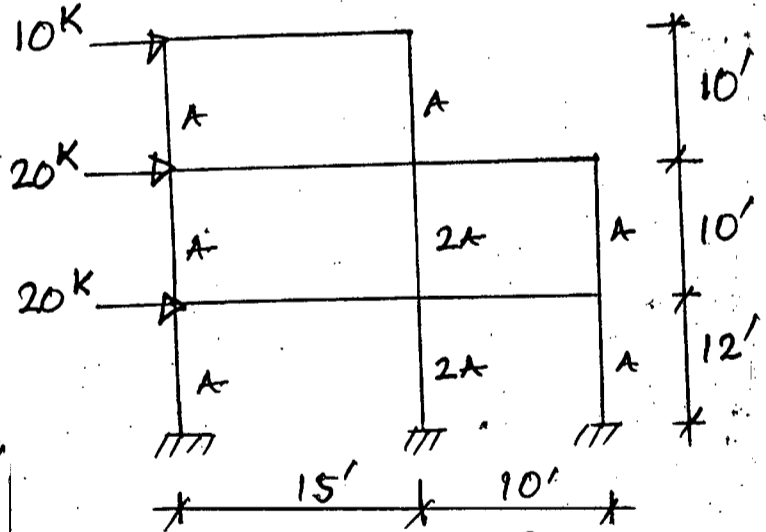

Figure 13
11. (a) Using Cantilever method, draw the bending moment diagrams of the beams and columns for the building frame as shown in Figure 13. Relative column cross-sectional areas are given beside the columns. **(30 2/3)**